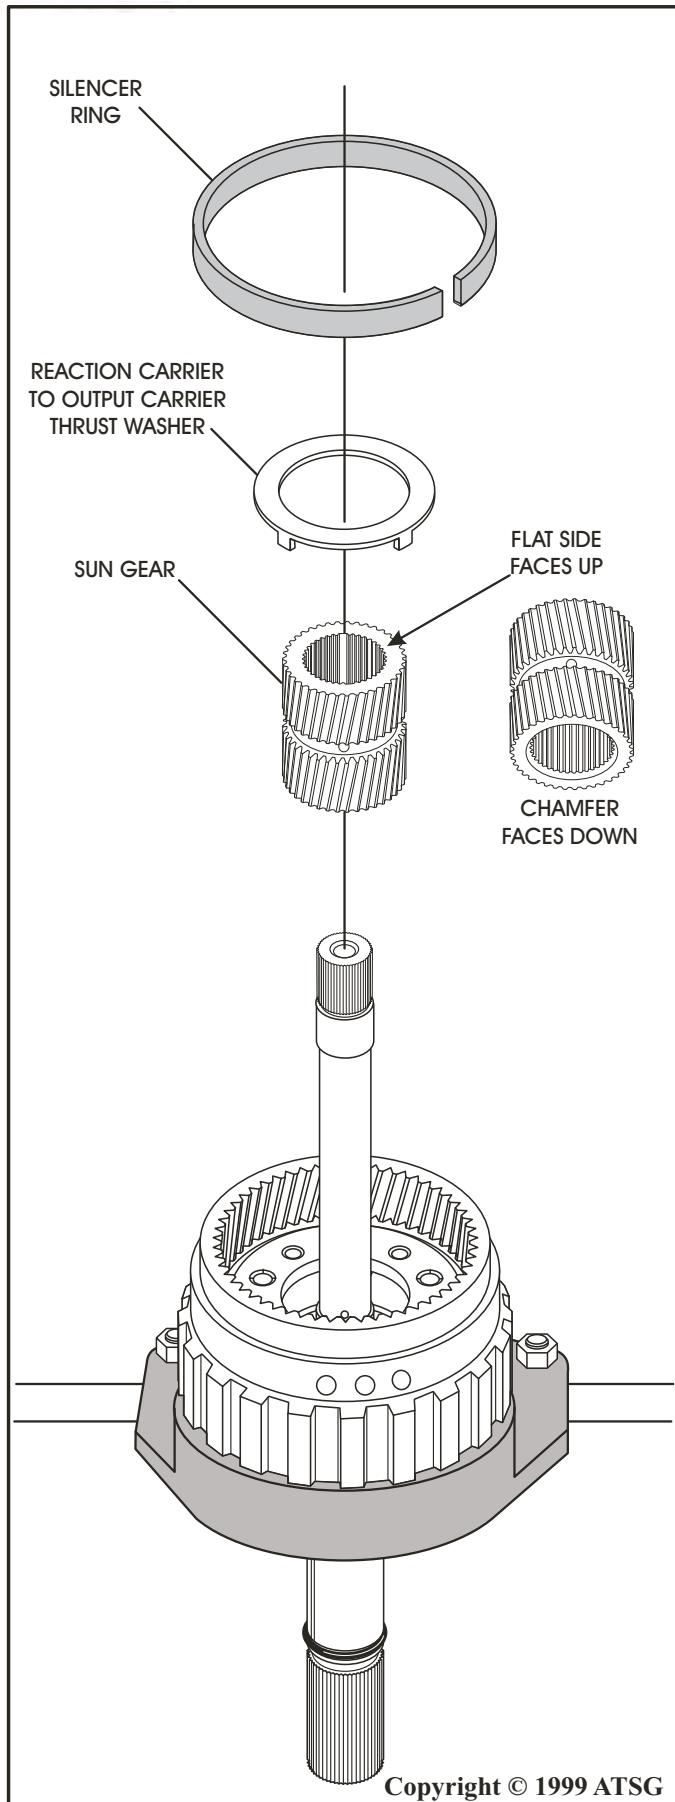

Figure 64
22. Install the sun gear over the main shaft and into the output carrier by rotating into position, with inside chamfer *downas* shown in Figure 64.
23. Install the reaction carrier to output carrier thrust washer, ensuring that the tabs engage in the holes in output carrier, and retain with a small amount of TransJel. (See Figure 64).
24. Install the silencing ring over the top side of the output carrier. Refer to Figures 64 and 65.